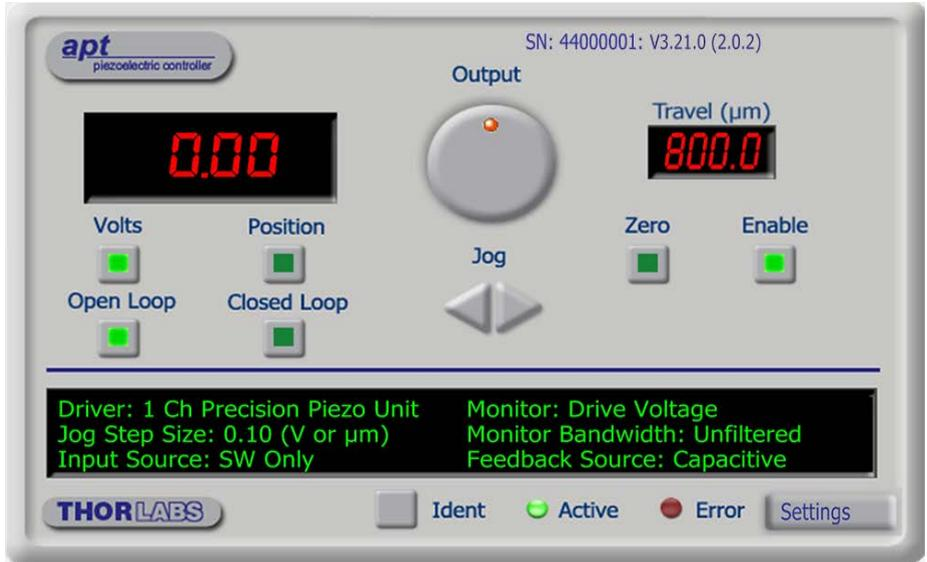

Fig. 4.1 Piezo Controller Software GUI .
- 3) Run the APT User program - Start/All Programs/Thorlabs/APT User/APT User. The APT server registers automatically the units connected on the USB bus and displays the associated GUI panels as shown in Fig. 4.1.
- 4) Notice how the total closed loop travel for the associated piezo is displayed in the 'Travel' window - see Fig. 4.1.